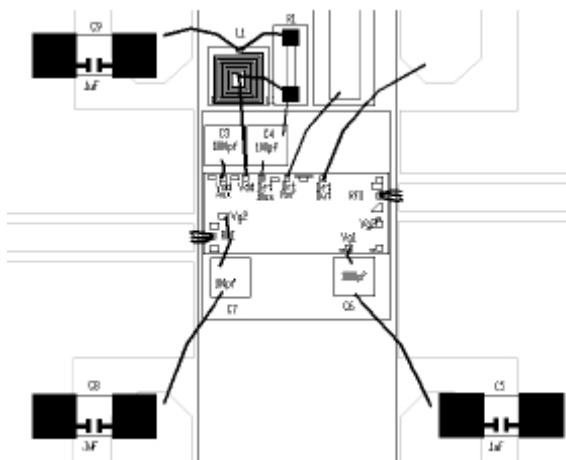
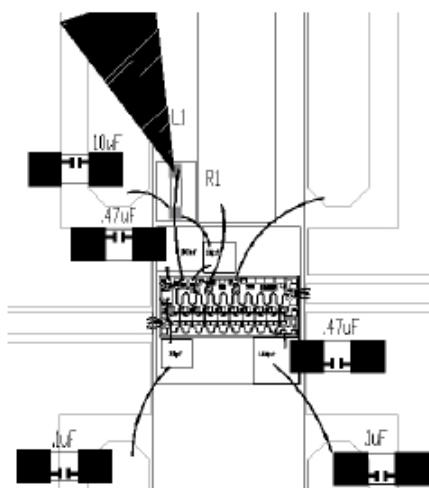
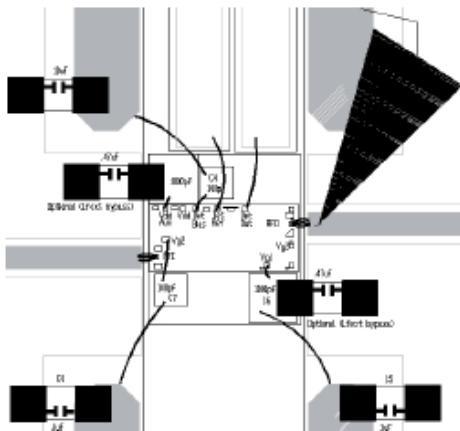

Figure 6
Figure 7
Figure 8
- 3) Increasing the inductance of the drain inductor (L1, Figure 6) to provide high impedance bias feed at the lower frequencies.
All three factors are equally important since any one of these can limit the low frequency performance. Input and output return loss degrades as the drain and gate line loads deviate from $50\ \Omega$. The load can be restored close to $50\ \Omega$ and RF performance improved by adding large external capacitors in parallel with the on-chip capacitors, as shown in Figure 6. When the additional bypass capacitors are connected, the low frequency limit is extended down to the corner frequency determined by the bypass capacitors, the combination of the on-chip 50Ω load, and the small de-queing resistor. At this low-end band edge, the small signal gain will increase in magnitude and stay at this elevated level down to the point where the CAUX bypass capacitor acts as an open circuit, effectively rolling off the gain completely. The low frequency capacitive extension limit can be approximated from the following equation:
Using this equation, CDC can be calculated for different desired corner frequencies. The equation is an approximation because it does not take into account other factors, such as transmission line impedances and TWA termination networks. In a typical assembly, the bypass capacitors are usually mono-block capacitors on the order of 0.01 or 0.47 μF , depending on the desired low frequency operating point. Keep in mind that these mono-blocks have series parasitic inductance. Since the RF DC blocking capacitors are the most sensitive, in this respect, we show a few recommended broadband DC blocks in Table 1. Figure 6, illustrates a 2 GHz to 50 GHz laminate PCB assembly. L1 is a chip inductor, and R1 is the de-queing alumina chip resistor. Figure 7, illustrates a 10 MHz to 50 GHz laminate PCB assembly. L1 is a Piconics broadband inductor. This inductor has an iron filling that negates the parallel resistor for de-queing. R1 is used simply as a means of launching the inductor and providing bias to the on-chip detector. As discussed previously, as the DC bias is on the same electrical path as the RF path, it is possible to bias the TWA through the RF transmission line. Figure 7 below illustrates this alternative method. The 2 GHz to 40 GHz RF performance, using a 7 turn Micrometrics chip inductor, are illustrated in Figure 8. All module losses are included in this data.